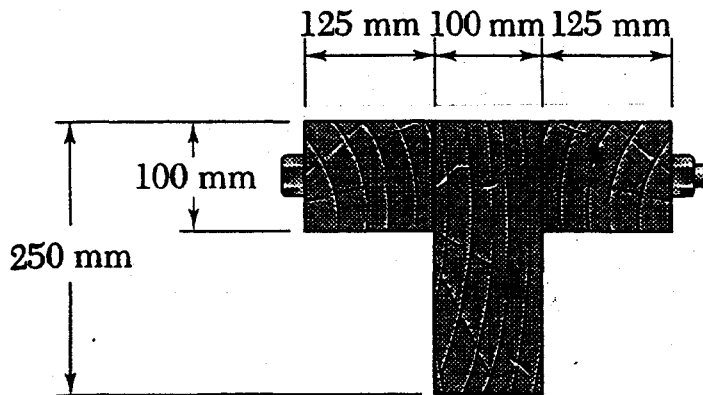

Fig. Q1
1. Three planks are connected as shown (Fig. Q1) by bolts of 10 mm diameter spaced every 150 mm along the longitudinal axis of the beam. For a vertical shear force of 11 kN, determine the average shear stress in bolts.